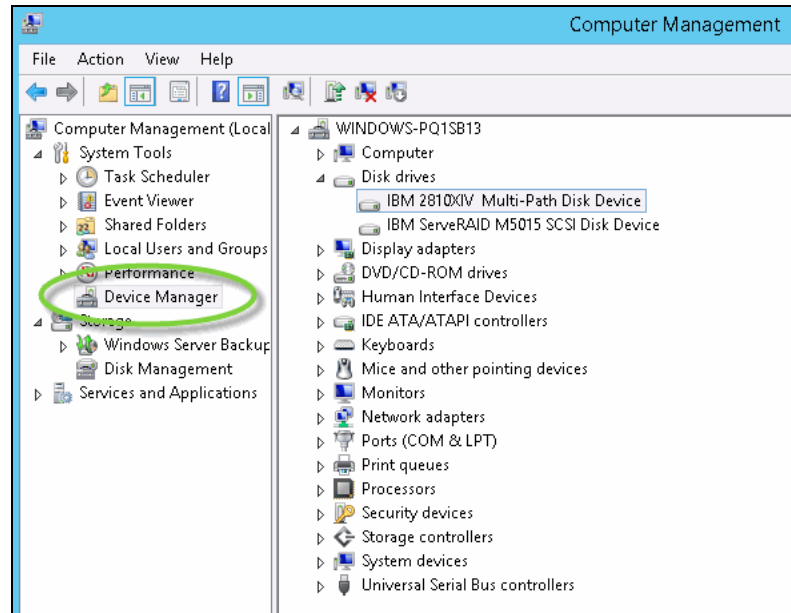

Figure 3-5 Device Manager
1. Open Administrative Tools from the Windows desktop (alternately choose **Control Panel** → **System and Security** → **Administrative Tools**). Next, select **Computer Management** to open its window and select **Device Manager** (see Figure 3-5).
2. Right-click **Disk drives** in the center panel and select **Scan for hardware changes**. FlashSystem A9000, A9000R and XIV LUNs are displayed as IBM 2810XIV Multi-Path Disk Device in the Device Manager tree under Disk drives (see Figure 3-5). The number of objects that are named IBM 2810XIV Multi-Path Disk Device depends on the number of LUNs mapped to the host.